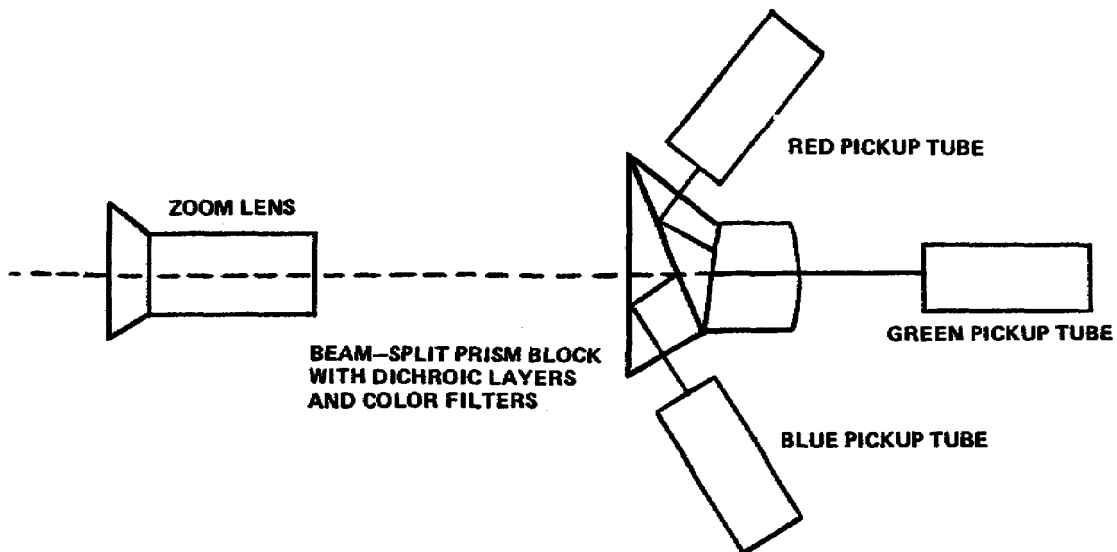

Figure 1-7. The prism block system
(2) The prism block. Because the dichroic mirror system is so critical in its alignment and therefore, quite vulnerable to physical shock, most cameras, especially the ENG/EFP cameras, use as their internal optical system the prism block. The incoming light is separated and directed to the pickup tubes by prisms and color filters. Since prism blocks soak up less light than dichroic mirrors, they are used in high quality cameras (fig 1-7).